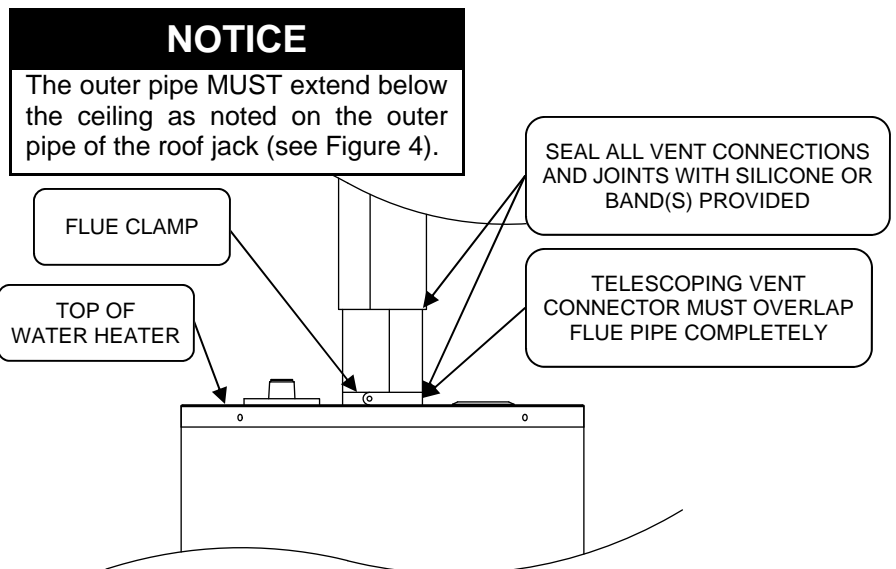

Figure 5
Step 14. Slip the $\varnothing 3$ " vent connector extension (shipped telescoped in the roof jack) down over the flue pipe which extends above the water heater (see Figure 5).
Step 16. Clamp the vent connector extension to the water heater flue pipe with the clamp provided (see Figure 5).